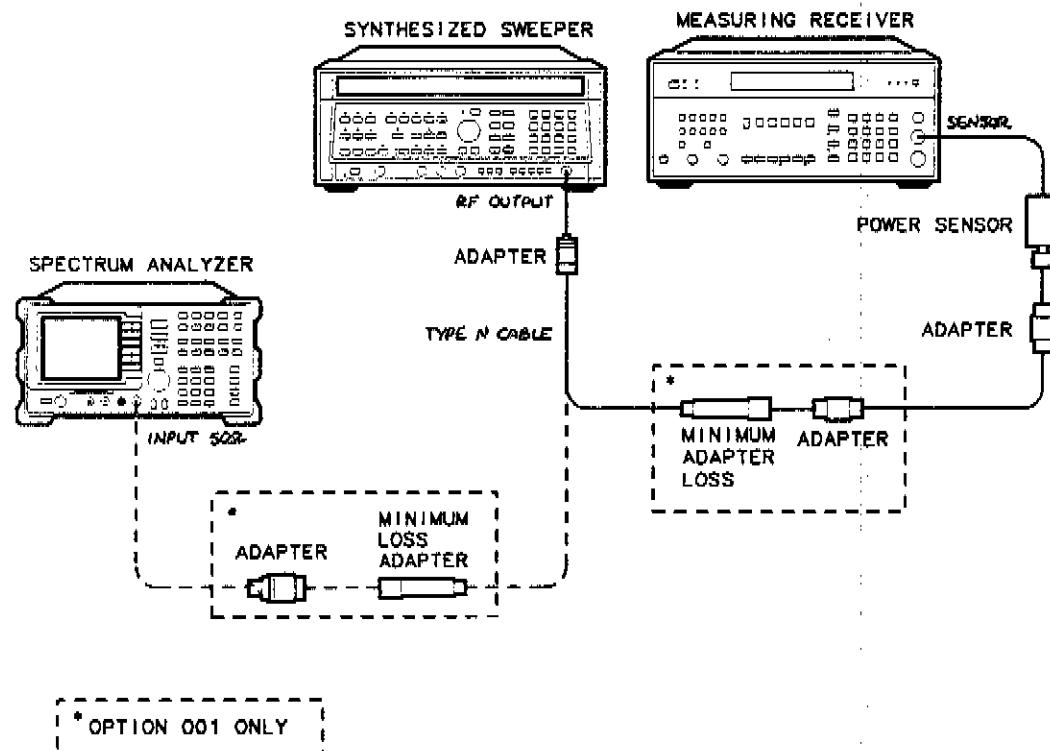

Figure 1-19. Second Harmonic Distortion Test Setup, 30 MHz
2. Connect the equipment as shown in Figure 1-19.